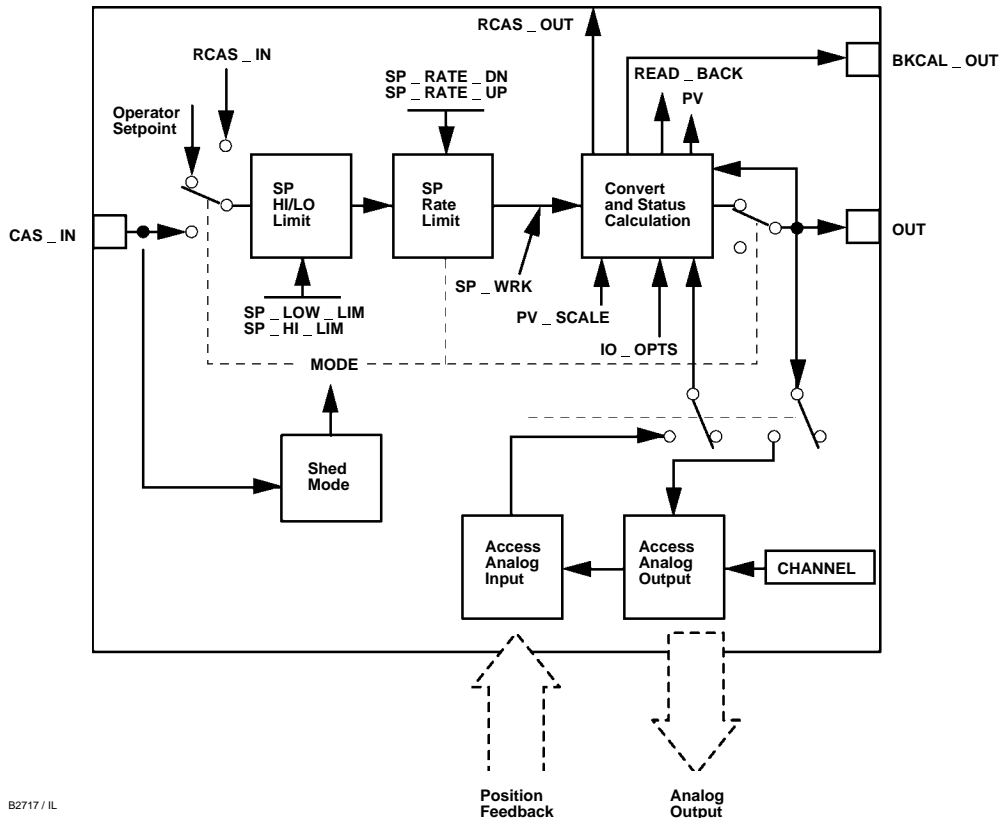

Figure 4-9. Analog Output Function Block Schematic
The Analog Output (AO) function block assigns an output value to a field device through a specified I/O channel. The block supports mode control, signal status calculation, and simulation. Figure 4-9 illustrates the internal components of the AO function block, and table 4-24 lists the definitions of the block parameters. The digital valve controller measures and uses actual valve position for READBACK [16].